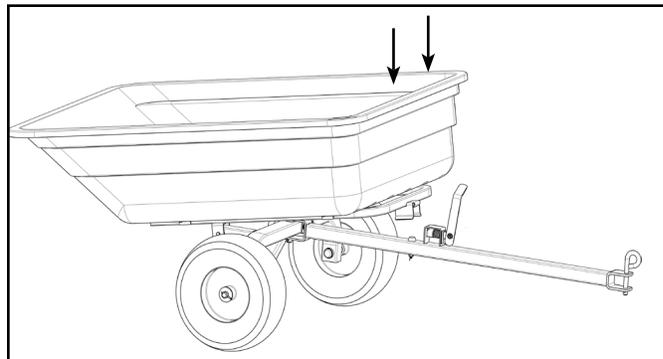

Figure 4.3 - Bed Latch
3. With two hands, grip the top edge of the bed and with constant downward force, push bed until bed latches to tow-bar. Refer to Figure 4.3